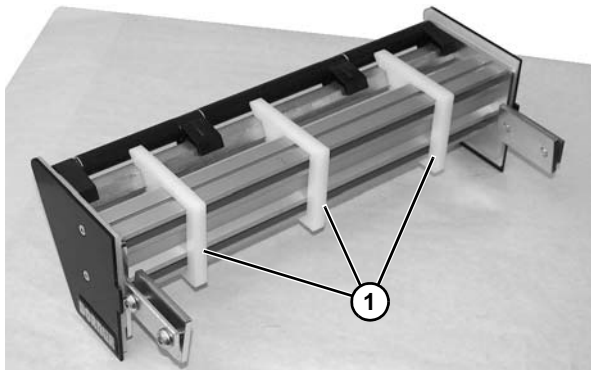

Figure 99
- Install components reverse of removal, making sure gap filler plates (Figure 99, item 1) are evenly spaced on assembly.